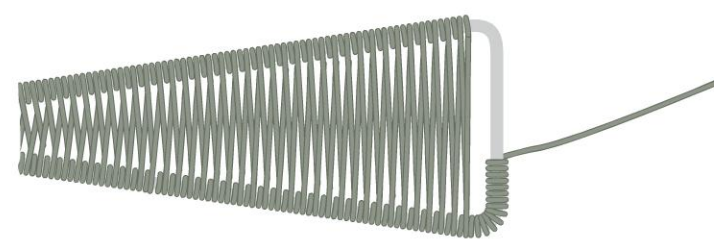

figure 9
- 1 7** Coil around the remaining frame, then trim the weaving wire tail on the inside of the frame (Figure 9). If necessary, use chain-nose pliers to press the weaving wire end against the frame. If necessary, tighten the coil made in Step 15, then trim the working wire tail.